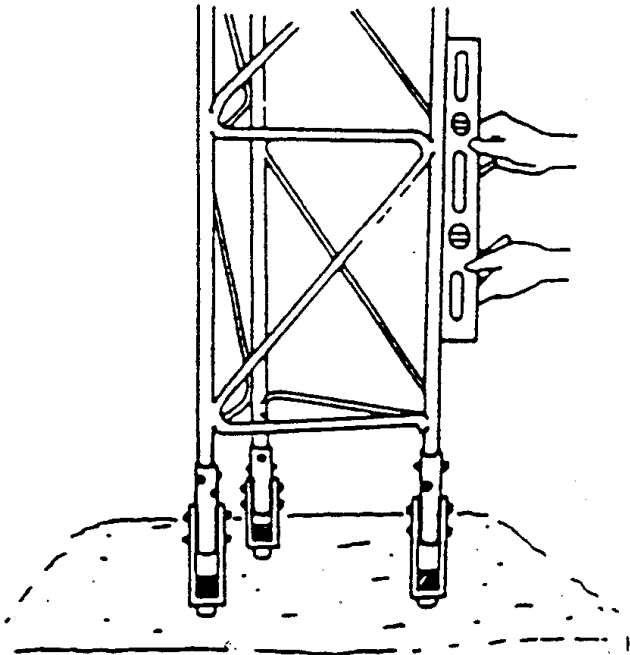

FIGURE 1.4-4. Plumbing NW8002 Tower
Step 9 — Vertical plumb the mast using the adjustment nuts on the tilt base and the level. Getting the bottom tower section plumb is very important. As concrete is poured into the hole, periodically check the tower for plumb using a carpenters level and make adjustments as necessary (Figure 1.4-4).